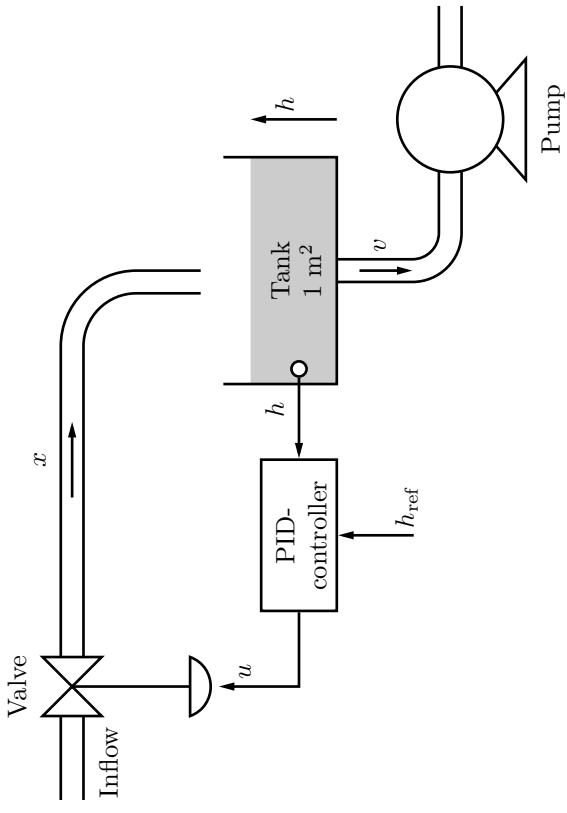

Figure 3.1a
3.1 A feedback system for level control is shown in Figure 3.1a where all variables denote variations from a working point. The flow to the tank is given by the valve position and the outflow from the tank by the flow $v(t)$ via the pump. The transfer function from valve opening u to the flow x is denoted $G_v(s)$.